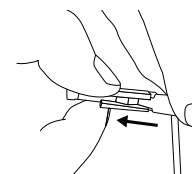

Figure 8
2. To remove the cartridge pen, hold the pen arm and pull the cartridge pen in the direction of the arrow. At this time, pull the cartridge pen straightly, never give a twist. (Figure 8)